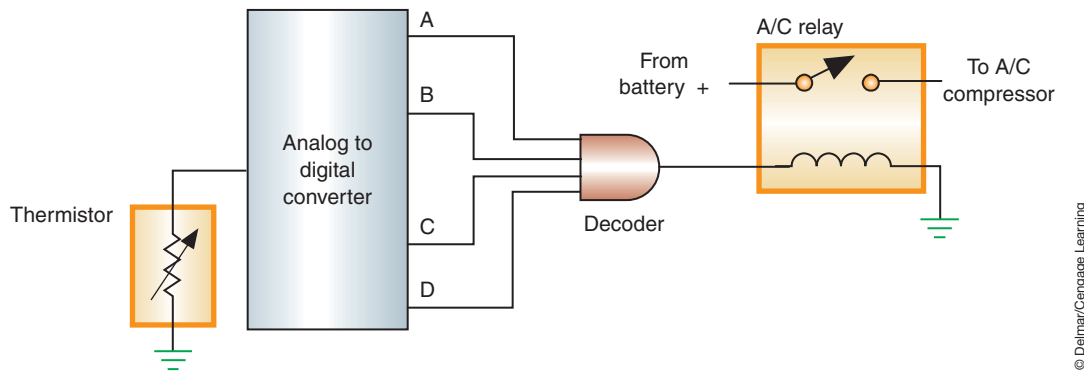

FIGURE 9-17 Simplified temperature sensing circuit that will turn on the air conditioning compressor when inside temperatures reach a predetermined value.
1. **Decoder circuit:** A combination of AND gates used to provide a certain output based on a given combination of inputs (Figure 9-17). When the correct bit pattern is received by the decoder, it will produce the high-voltage signal to activate the relay coil.